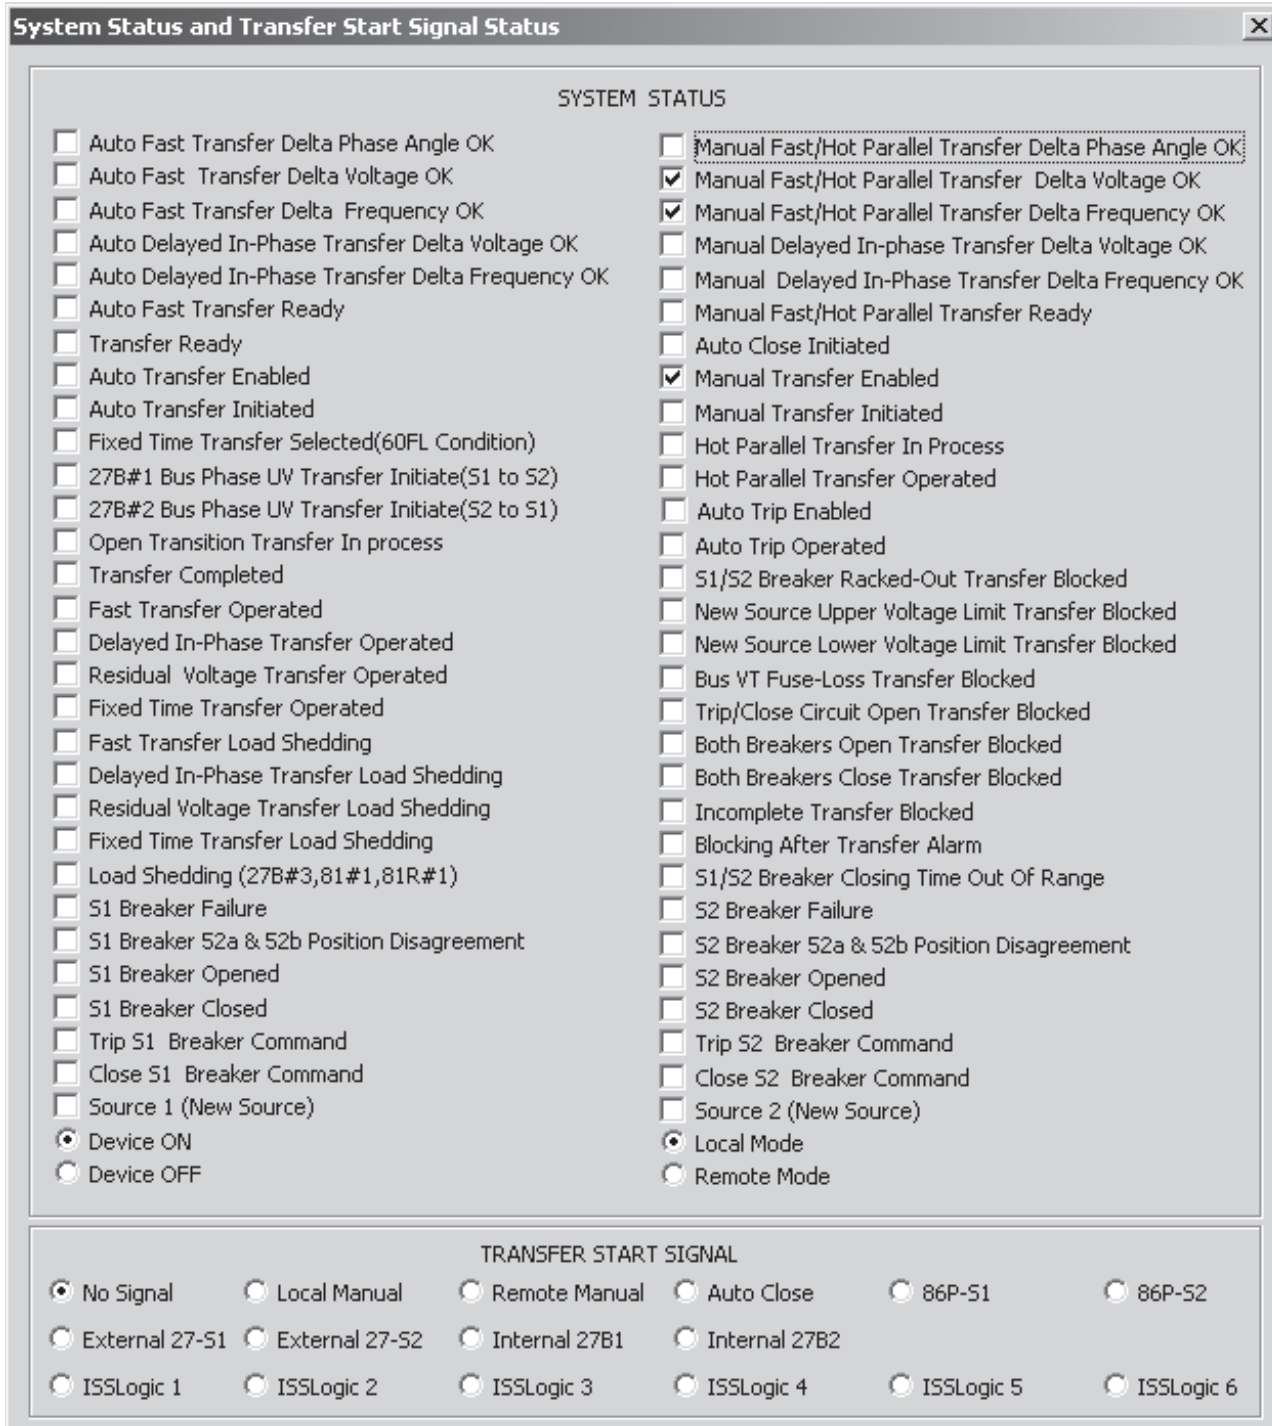

Figure 3-38 Sequence of Events System Status and Transfer Start Signal Status Screen
- To view the System Status and Transfer Start Signal information select **System Status and Transfer Start Signal**. ISScom will display the System Status and Transfer Start Signal Status screen (Figure 3-38).